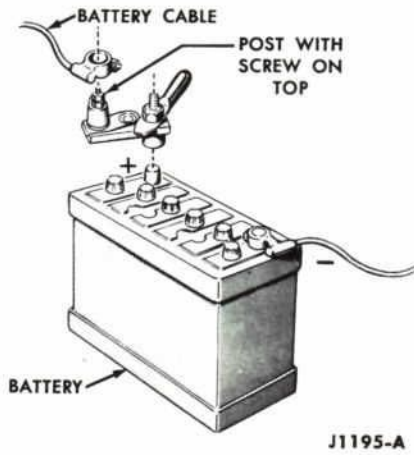

FIG. 18—Sun Battery Adapter Switch
3. Make the connections as shown in Fig. 17. (While making the connections have the battery adapter switch (Fig. 18) in the open position. Connect the red ammeter lead last).